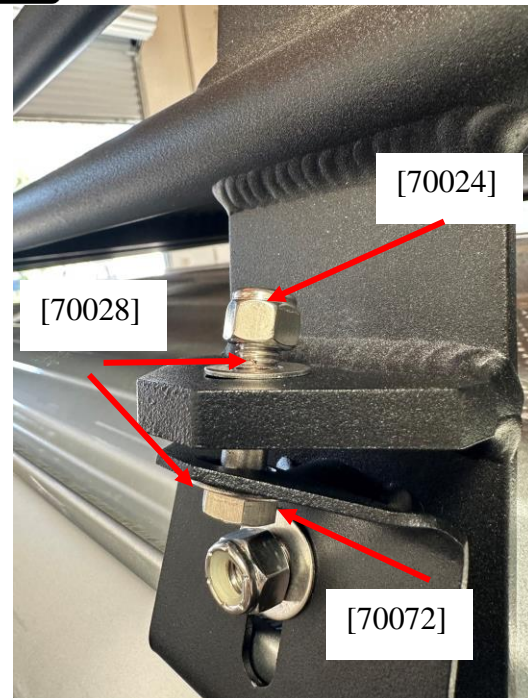

Figure 2
4. Insert (70072) into the vertical slot, with associated washers and nylock nut, as shown above in figure 2. Finger tighten this hardware as well.